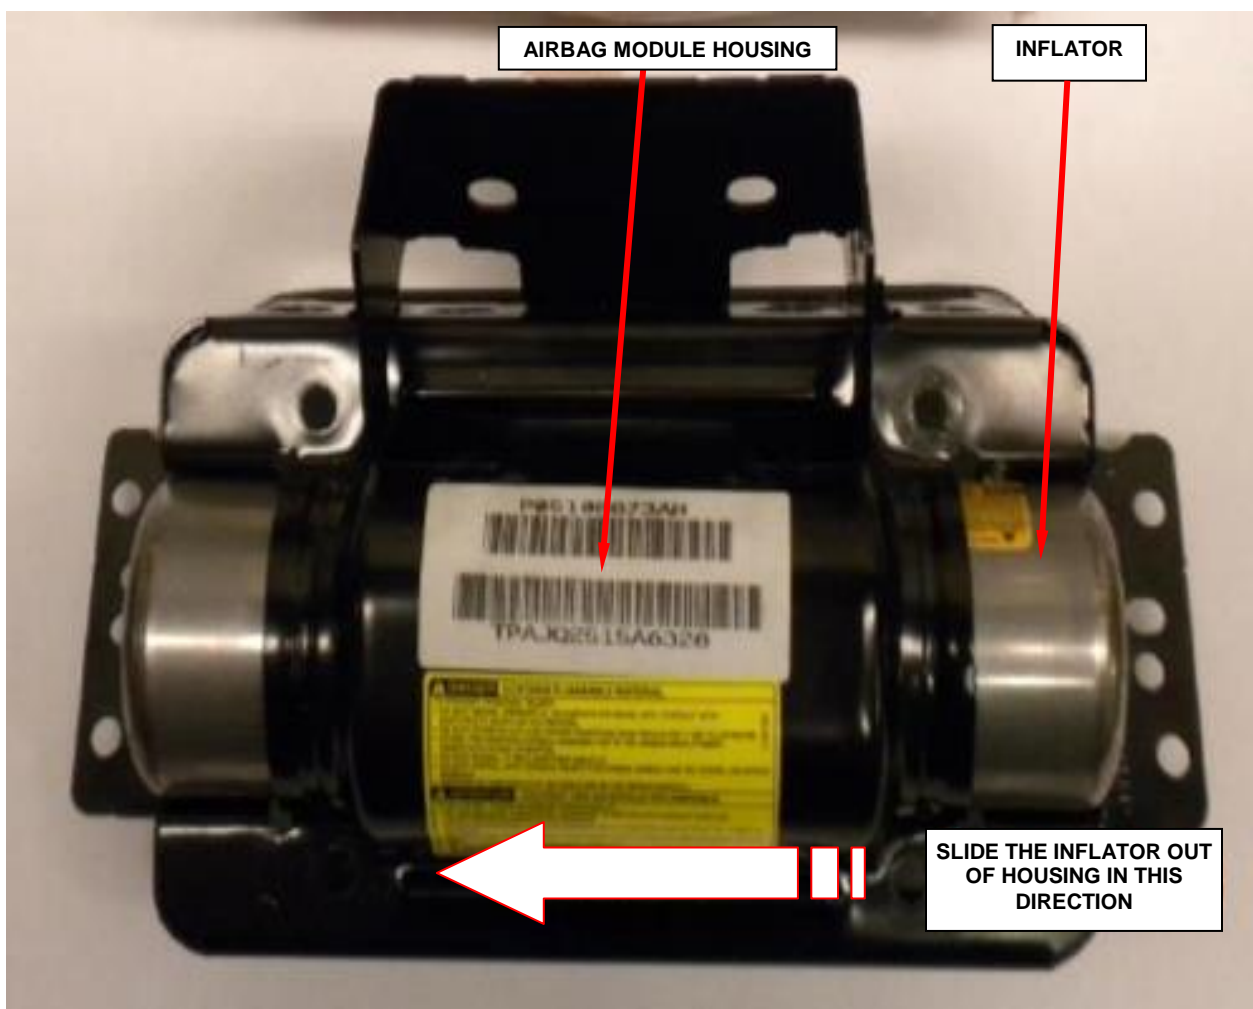

Figure 64 – Remove Airbag Inflator
- d. Slide the inflator out of the passenger airbag module housing (Figure 64).